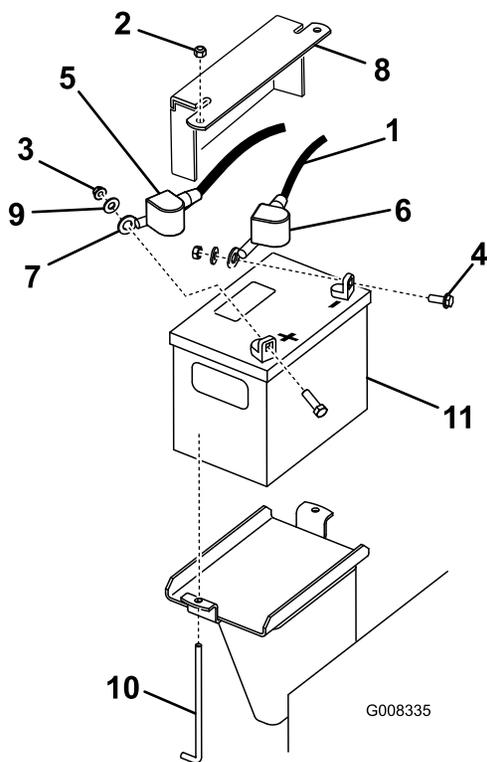

Figure 39
3. Lift the black rubber cover on the negative cable. Disconnect the negative battery cable from the negative (-) battery terminal (Figure 39).
4. Slide the red terminal boot off the positive (red) battery terminal, then remove the positive (red) battery cable (Figure 39).
5. Remove the hold down plate, J-bolts, and locknuts securing the battery (Figure 39) and remove the battery.
1. Place the battery onto the machine (Figure 39).
3. First, install the positive (red) battery cable to positive (+) battery terminal with a nut, washer and bolt (Figure 39). Slide the rubber cover over the post.
4. Then install the negative battery cable and ground wire to the negative (-) battery terminal with a nut, washer and bolt (Figure 39). Slide the rubber cover over the post.